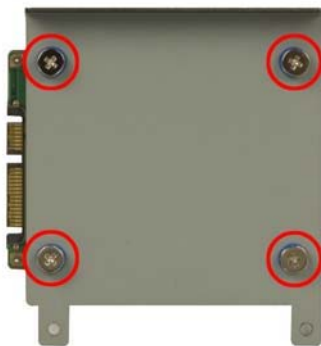

Figure 3-12: 2901230 HDD Retention Screws
Step 3: Attach the HDD bracket to the HDD. To do this, align the four retention screw holes in the HDD bracket with the retention screw holes on the bottom of the HDD. Insert four retention screws into the HDD bracket. (**Figure 3-12**).